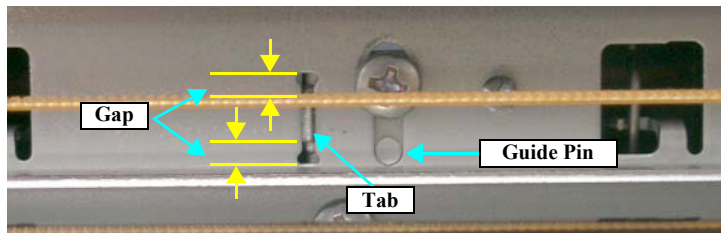

Figure 4-36. Checking the Position of Tab on the Guide Roller LD
4. Align the Guide Pin and the tab on the 0 Digit Side Guide Roller LD with the positioning holes on the Main Frame, and tighten the Guide Roller LD (0 Digit Side) with the screws. See Figure 4-36.